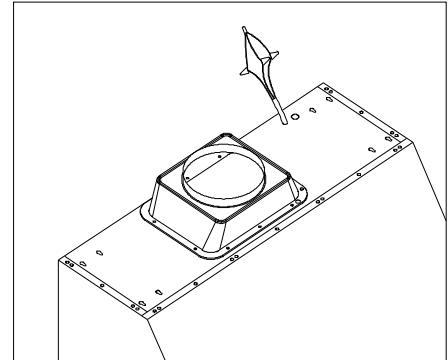

Figure 6
- Connect three wires (black, white and green) to house wires and cap with wire connectors. Connect wires according to their colors (i.e. black to black, white to white, and green to green). See Figure 6.